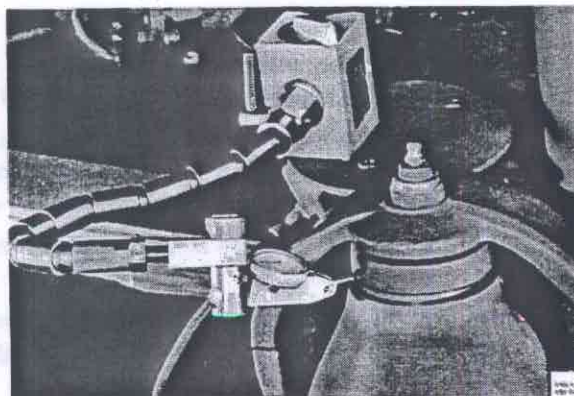

Fig. 63-2. Placing the dial indicator
4. Place a dial indicator as shown in Fig. 63-2.